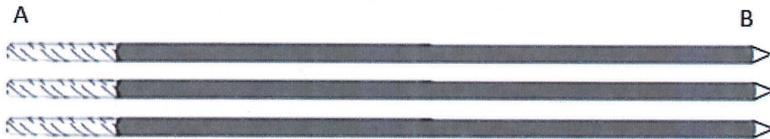

Figure 2
The Hurley Picket Anchor System comes with three 42-inch pickets (Figure 2). The pickets are constructed of a hardened steel alloy to withstand repeated installation and the lateral forces applied to them when the system is loaded. The pickets have a threaded end (A) for attaching the striking cap and eye nut and a tapered end (B) to drive into the soil.